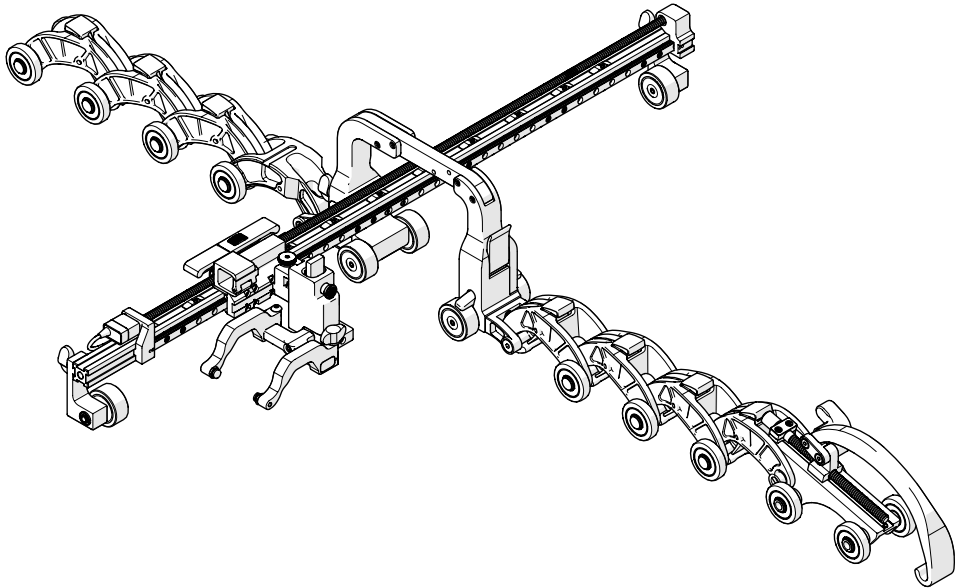

Fig. 88 - Assemble configuration
3. On a flat surface, connect the appropriate number of links (see *Connecting QuickLinks on page 19*) as indicated on the **ROTIX** setup chart. Arrange the link setup with the buckle and catch link 180° opposite the corrosion link (Fig. 88).